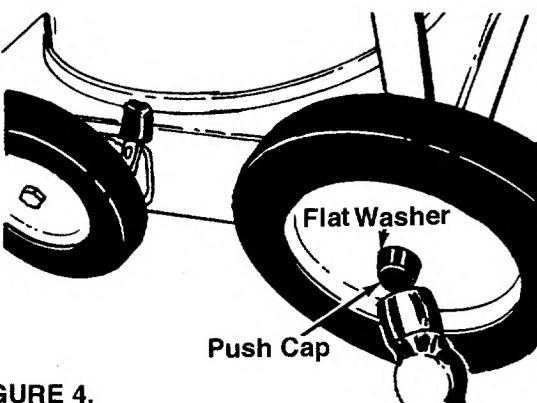

FIGURE 4.
2. Place rear wheels in position on the shafts, then another flat washer. Secure with black push cap by placing the push cap in position and tapping on with hammer or rubber mallet. See figure 4.